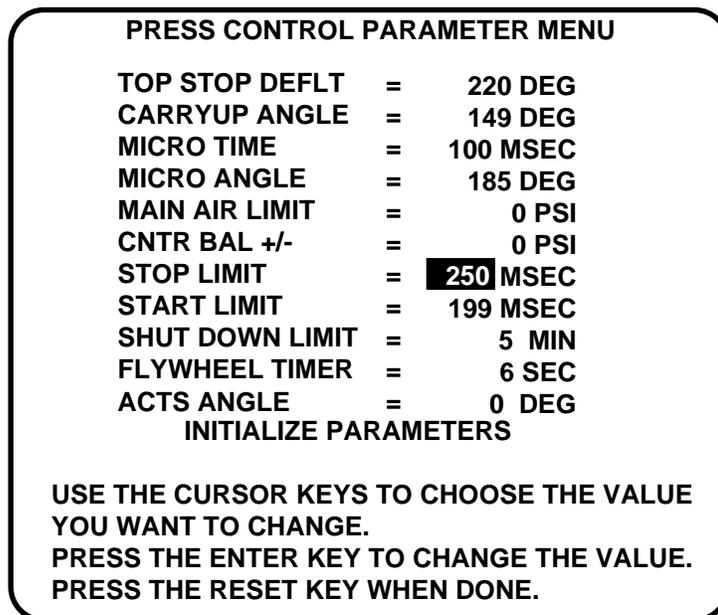

Figure 4-12. "Press Parameters" display in SmartPAC's Initialization mode
2. Select "Press Parameters." You will see a display similar to Figure 4-12. Use the cursor keys to select "Start Limit." Notice the value for Start Time Limit will be highlighted.
9. Now go back to the Main Initialization menu (Figure 4-1). Select "Press Control." The WPC Initialization menu appears, Figure 4-2. Select "Press Parameters." A menu like Figure 4-12 appears. Notice that the value of the Top Stop Default angle is highlighted. Press ENTER. Using the number keys, change it to the same angle as the Top Stop Angle and then press ENTER. Press RESET twice to return to the Initialization menu.